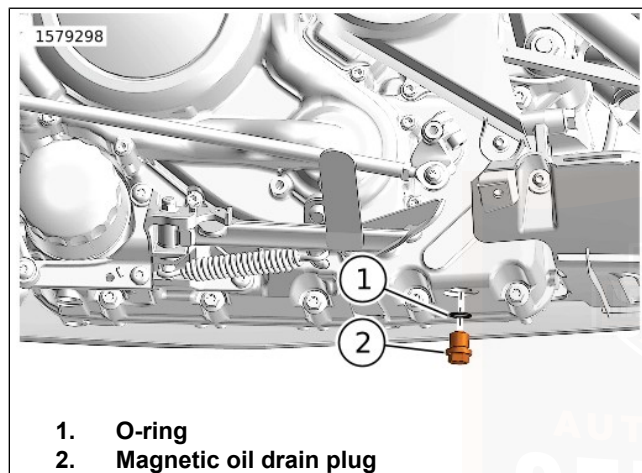

Figure 44. Oil Drain Plug (Typical)
5. Figure 44 Remove magnetic oil drain plug (2). Allow oil to drain completely.
- a. Remove and discard O-ring (1).